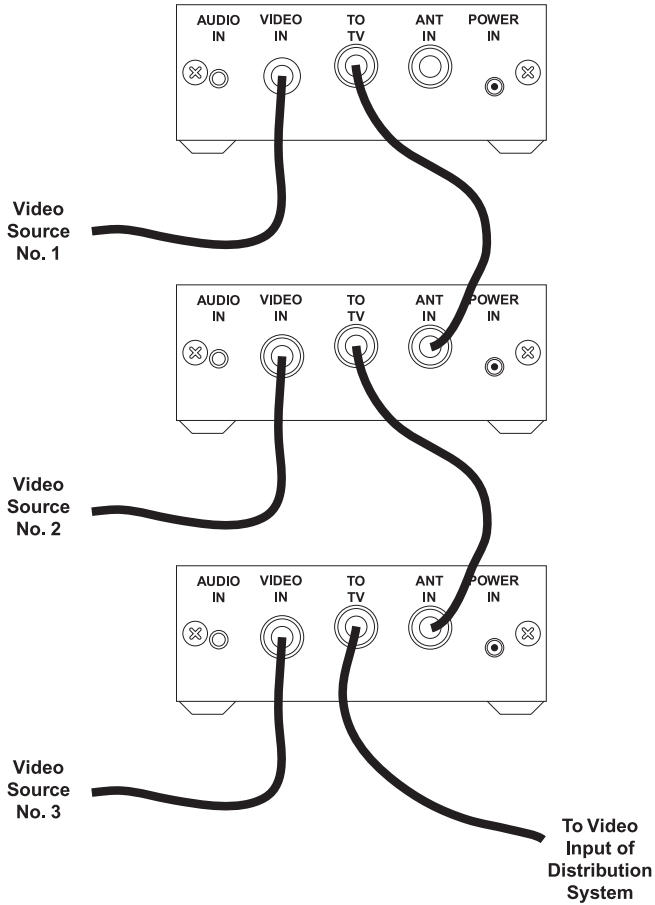

Figure 5
2. If in the same location (such as mounted in an OnQ Enclosure with the Modulator Mounting Bracket), use the ANTENNA IN and the OUT TO TV to connect them in a series. This will negate the need to use a splitter/combiner to sum the modulator outputs together. **Refer to Figure 5.**